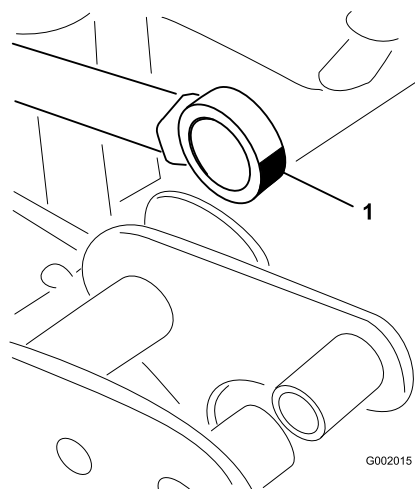

Figure 42
5. Manipulate the actuator rod bearing end and apply grease into the bearing (Figure 42). Wipe off excess grease.